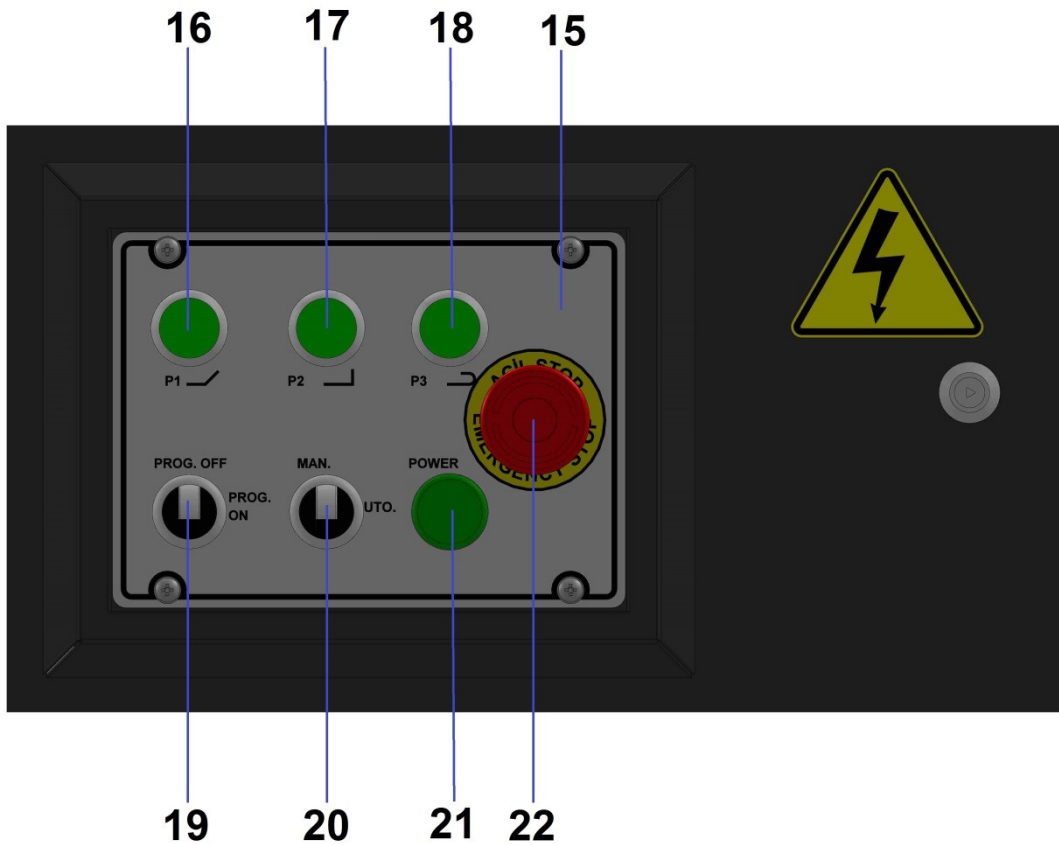

Figure 4: 380V Manual control buttons
- Press the compatible button choosing the desired bending type from the buttons on the machine's control panel (Figure: 4 No: 16, 17, 18).
- When making stirrup bending you can set max. 9 operations at once by switching the PROG. ON-OFF switch (Figure: 4 No: 19) "ON" position and you can use it at once according to the order you have set.
- After your settings are completed you can start serial bending by switching the MAN-AUTO switch (Figure:4 No:20) to AUTO position.
- You can stop the machine in emergency cases by pressing the emergency stop (Figure: 4 No: 22) button on the control panel. When you restart, the machine will return to the beginning of the operation where it had stopped.